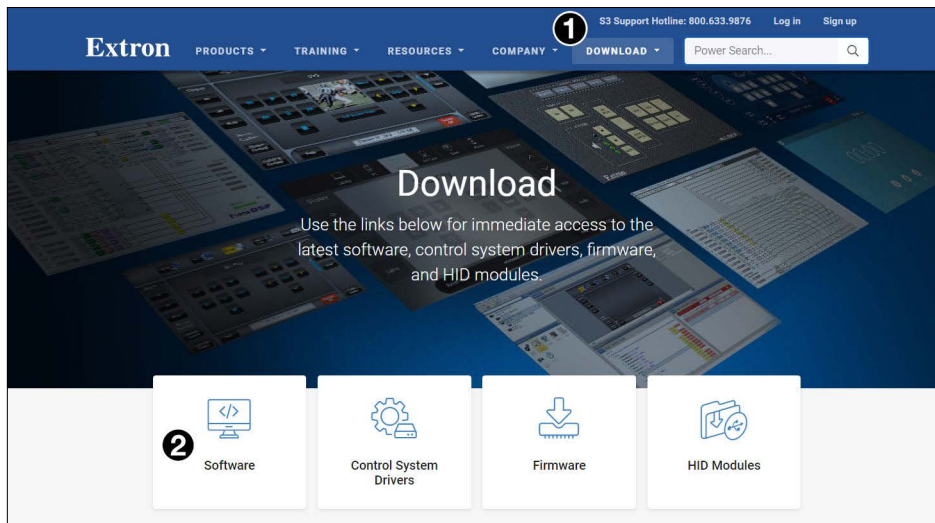

Figure 3. Downloading Software
2. Click **Download** (see figure 3, ❶).
3. Click **Software** (❷).